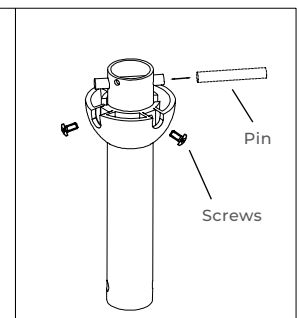

FIGURE 6
**B)** Replacing the downrod pipe (if applicable): first remove 2 screws, then remove the horizontal pin, then replace the standard downrod with the desired downrod pipe, then reinsert the horizontal pin, and lock the 2 screws. (See Figure 6)